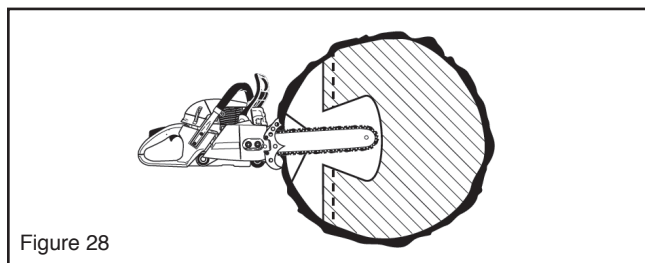

Figure 28
4. Enlarge the plunge cut as shown in the illustration (Figure 28).